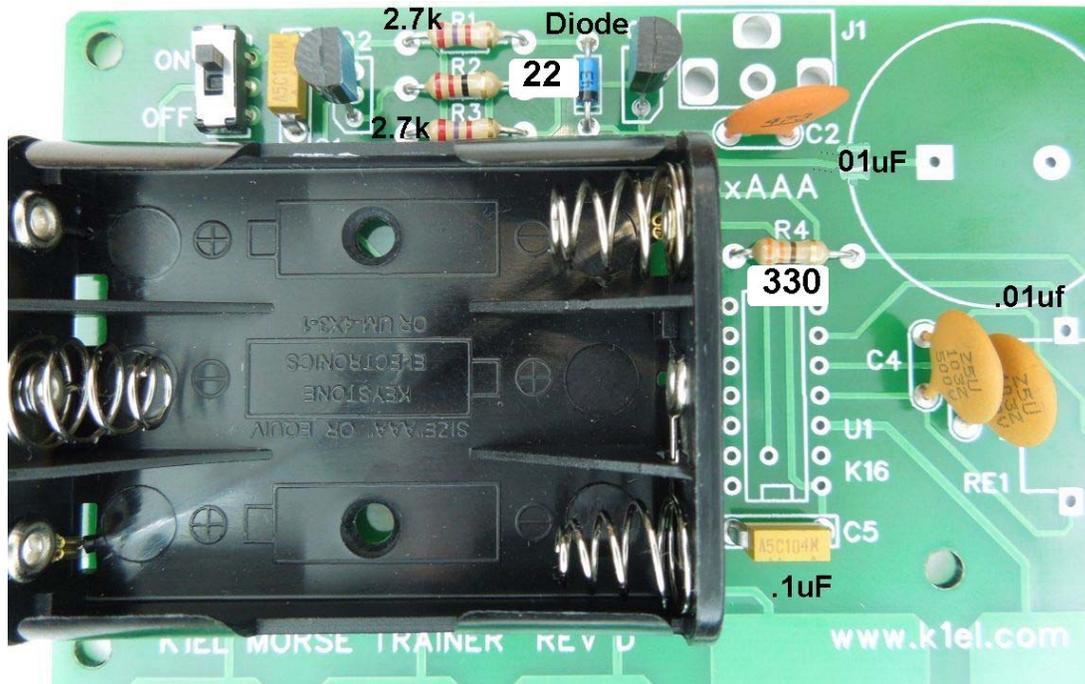

Figure 5 – Resistors, diode, and capacitors installed
- \_\_\_ Using figure 5 on page 6, install and solder all four resistors. Color codes are listed in the parts inventory on page 5. Verifying resistor values with an ohmmeter before installing them is recommended